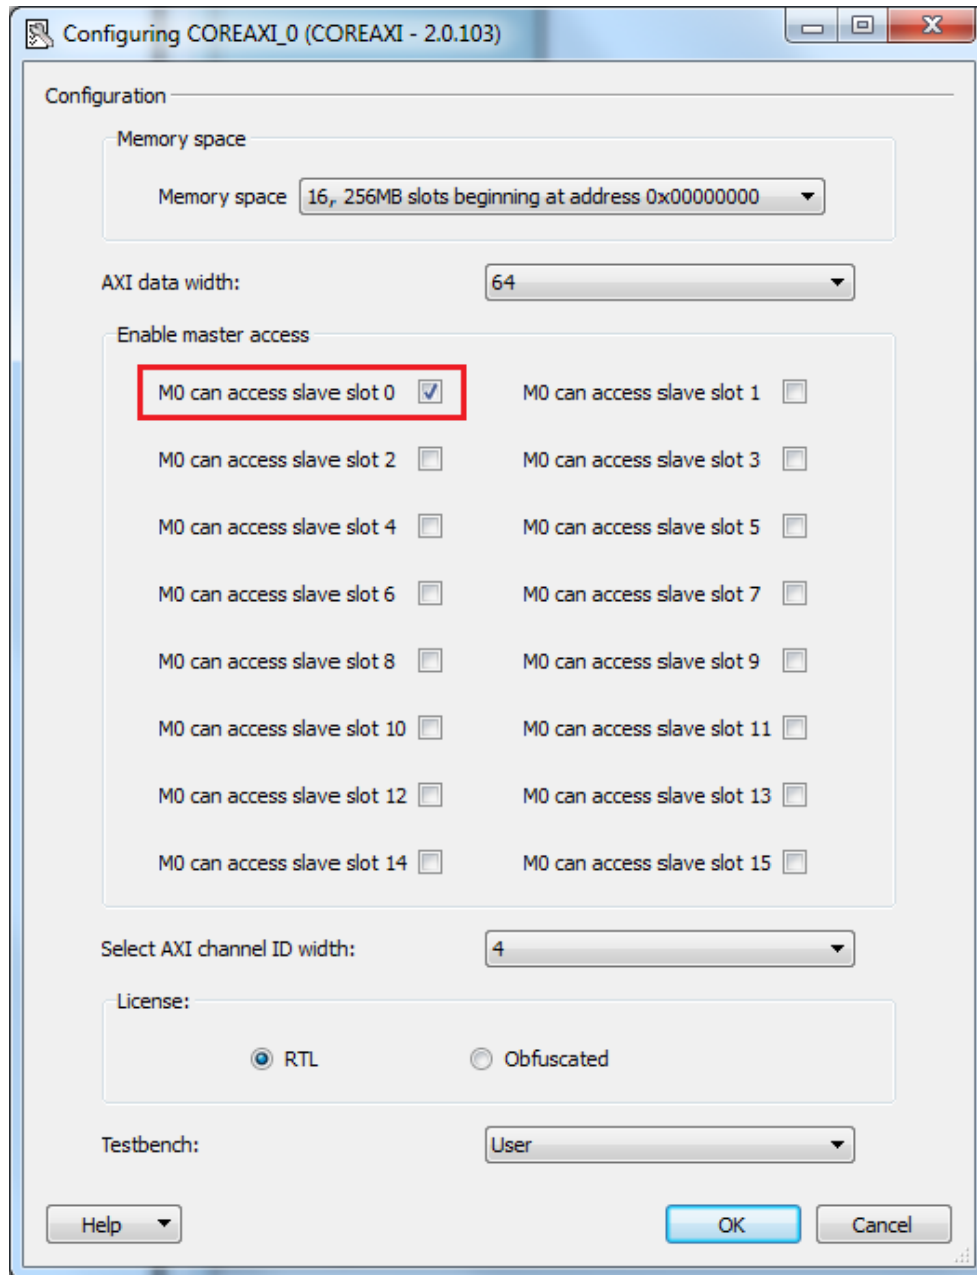

Figure 4-4 • Core_AXI Configuration
4. Instantiate and configure CoreAXI so that the master slot M0 is enabled for the slave slot S0, as shown in Figure 4-4. The slot size selection must be matched with the amount of external memory space.